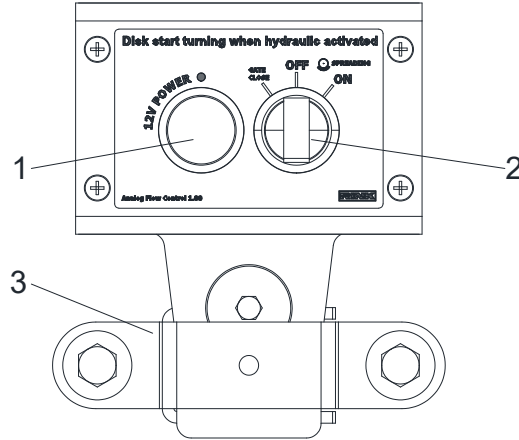

Fig. 26 Analog Flow Control operating device (evo)
- Analog Flow Control operating device (evo) (Fig. 26)
When the disc spreader is not hitched to a towing vehicle, the operating device is attached to a holder at the front of the hopper. A holder (Fig. 26/3) for the towing vehicle included in the scope of delivery enables the operating device to be attached to the towing vehicle. The disc spreader can then be operated from the towing vehicle.